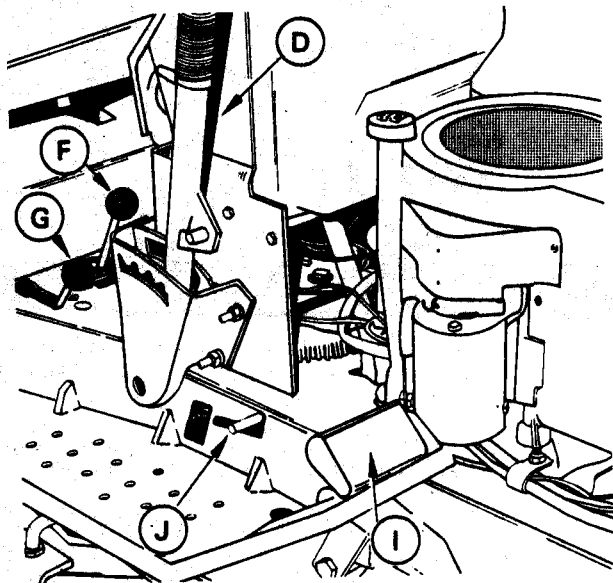

FIGURE 3
J PARKING BRAKE LOCK — FIGURE 3
A Parking Brake Lock is provided to prevent the tractor from moving when parked or left unattended. To lock the brake, pull the parking brake lock up with the pedal fully depressed. Then release the brake pedal. Figure 3 shows the parking brake lock engaged. Clutch pedal must not be depressed when locking brake. Parking brake lock may be disengaged by depressing either brake or clutch pedal.
3. Engage Parking Brake Lock (J) by depressing the Brake Pedal (I) (Figure 1) and pulling up on the Parking Brake Lock (J) (Figure 3).
BRAKE PEDAL SPRING ADJUSTMENT — FIGURE 3